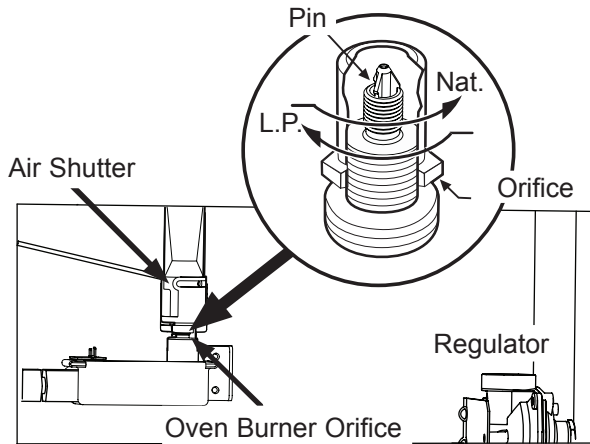

Figure 12
B. Adjust Oven Burner Orifice (see Figure 12)